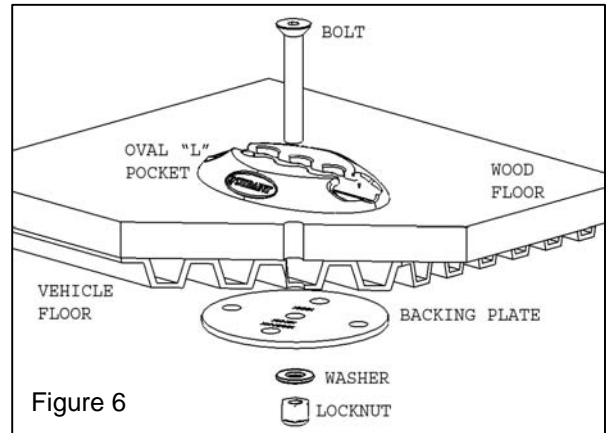

Figure 6
6. Securely fasten bolt and lock nut as shown in Figure 6, ensuring at least 2 – 3 threads are sticking out.